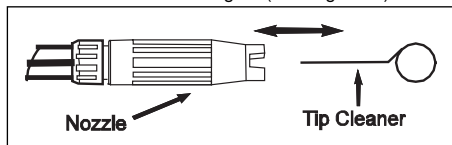

Figure 5 - Insert tip cleaner in nozzle hole and move back and forth until debris is dislodged
- Ensure that the safety lock on the trigger is used, when you have stopped using the pressure washer to prevent accidental operation. (fig 5)
- Using included tip cleaner, or an unfolded paper clip, insert wire into the nozzle hole and move back and forth until debris is dislodged. (See Figure 5.)